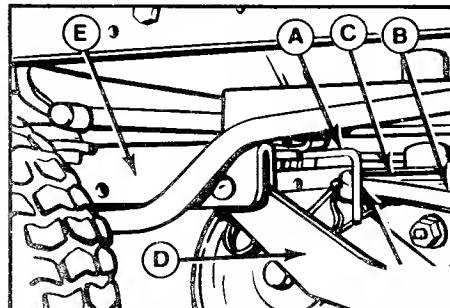
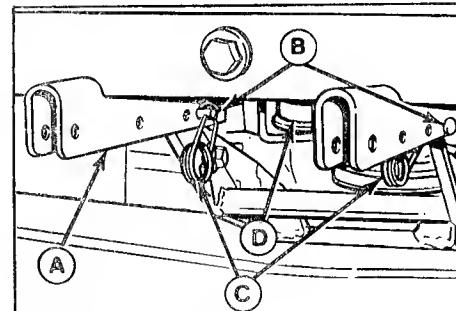
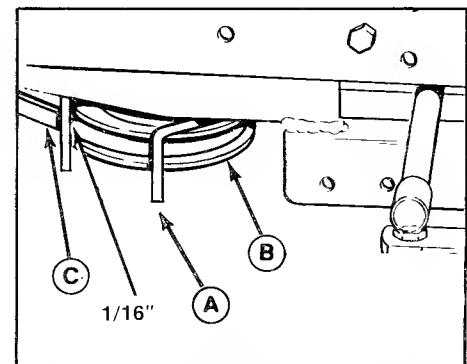

Figure 3. L.H. Belt Stop - All Mowers
Figure 4. Mower Hitch Attached
Figure 6. Right-Hand PTO Pulley Belt Stop - 42" Mower
9. Insert the mower hitch arms in the tractor hitch (figure 3). Align the holes in the hitch arms with the rear holes in the tractor hitch. Insert the pins (B, figure 4) from the outside and install the clips (C).
10. Slip the mower drive belt onto the engine PTO pulley (figure 3) loosening belt stops as necessary. The left-hand belt stop is shown in figure 3. The right-hand belt stop is shown in figure 5 (36" mower) or figure 6 (42" mower).